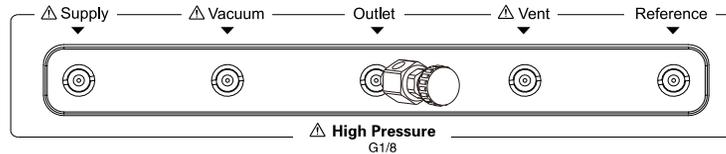

Figure 7-2 Self-tuning Connection
- Before self-tuning, screw gas release fitting in Outlet port. During calibration, as Fig 7-2, screw gas release fitting tightly;